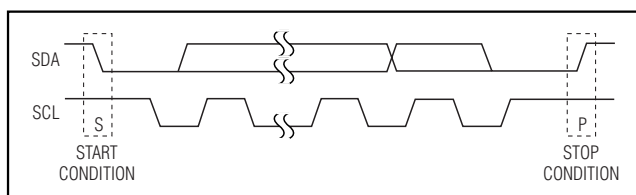

Figure 3. Start and Stop Conditions
Each transmission consists of a START condition (Figure 3) sent by a master, followed by the MAX7315 7-bit slave address plus R/W bit, a register address byte, one or more data bytes, and finally a STOP condition (Figure 3).
from high to low while SCL is high. When the master has finished communicating with the slave, it issues a STOP (P) condition by transitioning SDA from low to high while SCL is high. The bus is then free for another transmission (Figure 3).